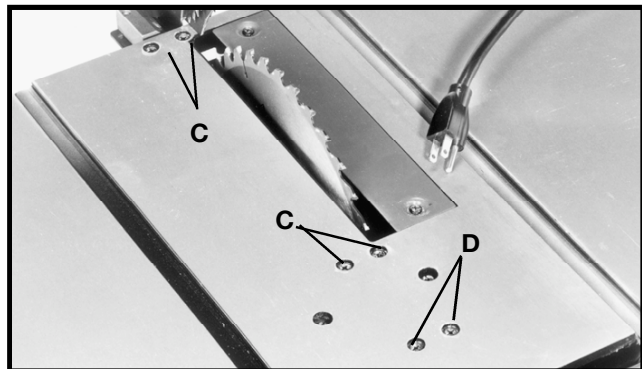

Fig. 43
6. If the front and back measurements (Figs. 41 and 42) are not identical, you can adjust the blade. Start by loosening the nuts below the four screws (C) Fig. 43 on the table. Then loosen the screws (C). Carefully move the saw blade until the blade is parallel to the miter gage slot. When done, tighten four nuts under the table and the four screws (C) Fig. 43 securely.